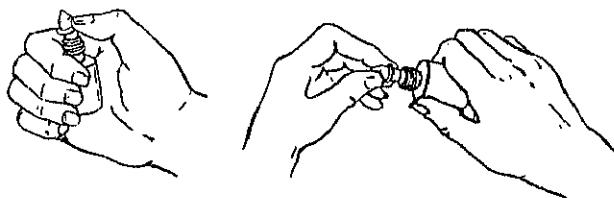

Figure 3-3 (U). Removing the tip from the squeeze bottle (U).
- (1) Remove the cap, then remove the tip from the squeeze bottle (fig. 3-3).
- (2) Place 1 tablet of REAGENT 1 and contents of 1 packet of REAGENT 2 in the bottle.
- (3) Crush the tablet by squeezing the walls of bottle.
- (4) Fill the bottle to the shoulder with clear, clean water.
- (5) Replace the tip and screw the cap on tightly.
- (6) Shake the bottle vigorously until little or no solid settles to the bottom.